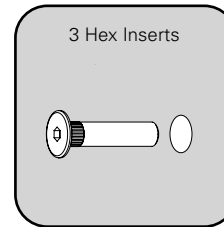

Figure 6
- 2.7 One-by-One place (tap) the inserts into the door until fully installed. You can use a 1/8" (3mm) hex key wrench to help keep insert stationary when placing the screws in step 3.3. (Fig. 6)